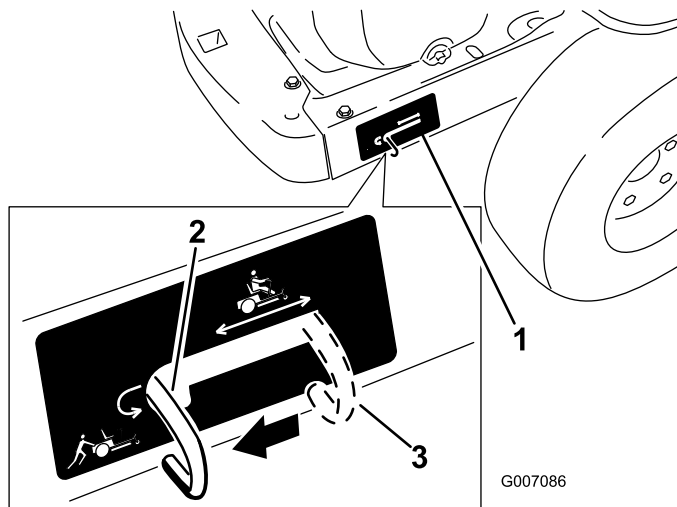

Figure 20
4. Move the bypass levers rearward and then down to lock them in place as shown in Figure 20 to disengage the wheel motors. Repeat this on each side of the machine.
Move the bypass levers upward and push them forward, to the **middle** of the horizontal slot (Figure 20) to engage the wheel motors.